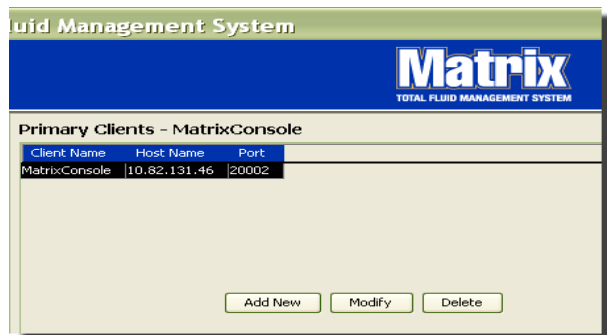

FIG. 79
4. To add additional Primary Clients, select the Add New button (FIG. 79).